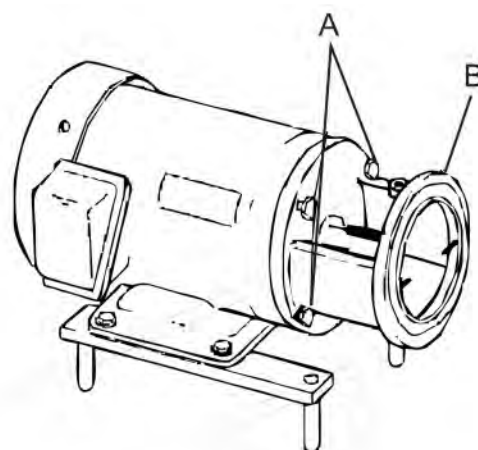

Figure 16 - Removing the Adaptor
3.2 Remove the bolts securing the adapter (See Figure 16 item A and B) to the motor frame and remove the adapter.